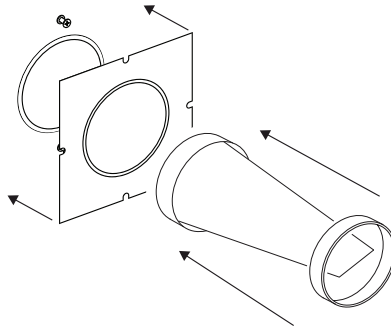

Figure 6.7. Installation the filter and sealing element
8. Glue the sealing element to the wall. Insert the filter into the ventilation duct (Figure 6.7). The edge of the filter should be recessed in the air channel at least 20 mm.